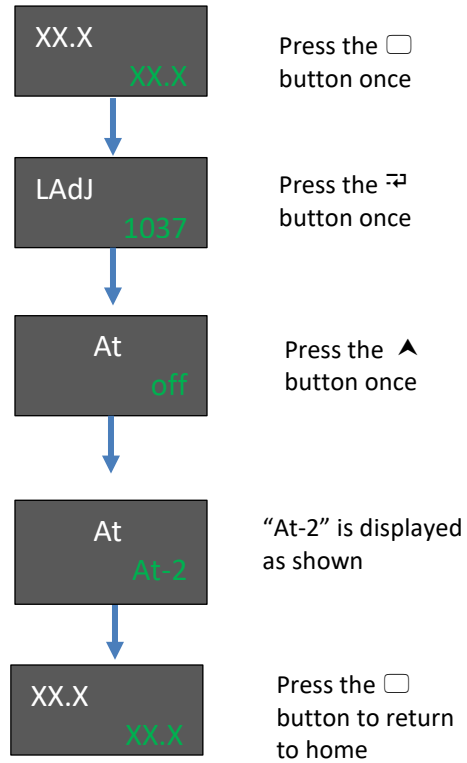

Figure 5. Auto Tune Enable
4. Follow the procedure shown in Figure 5.